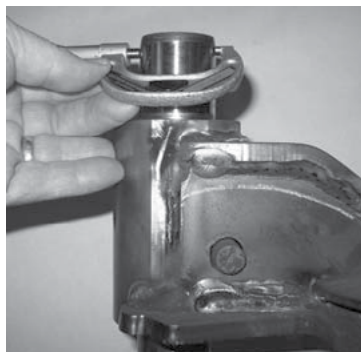

Figure 23.
- Inspect the kingpin for wear or damage. Use a micrometer and measure the upper and lower kingpin in two locations. Positions must be 90 degrees (perpendicular) from each other. (See Figures 23 through 26) If the kingpin diameter is less than 1.802", kingpin replacement may be necessary. Contact the Hendrickson Customer Service Department at 800-660-2843.